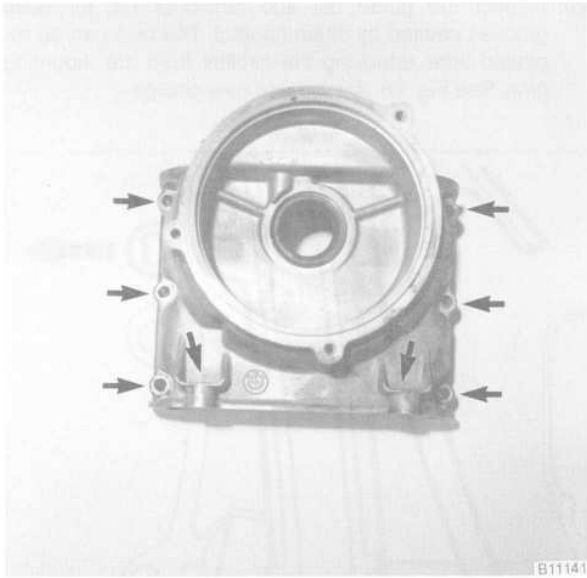

Fig. 24. Upper timing chain cover mounting bolt holes (arrows).
- Remove the bolts from the upper timing chain cover. See Fig. 24. Carefully separate the cover from the cylinder head.